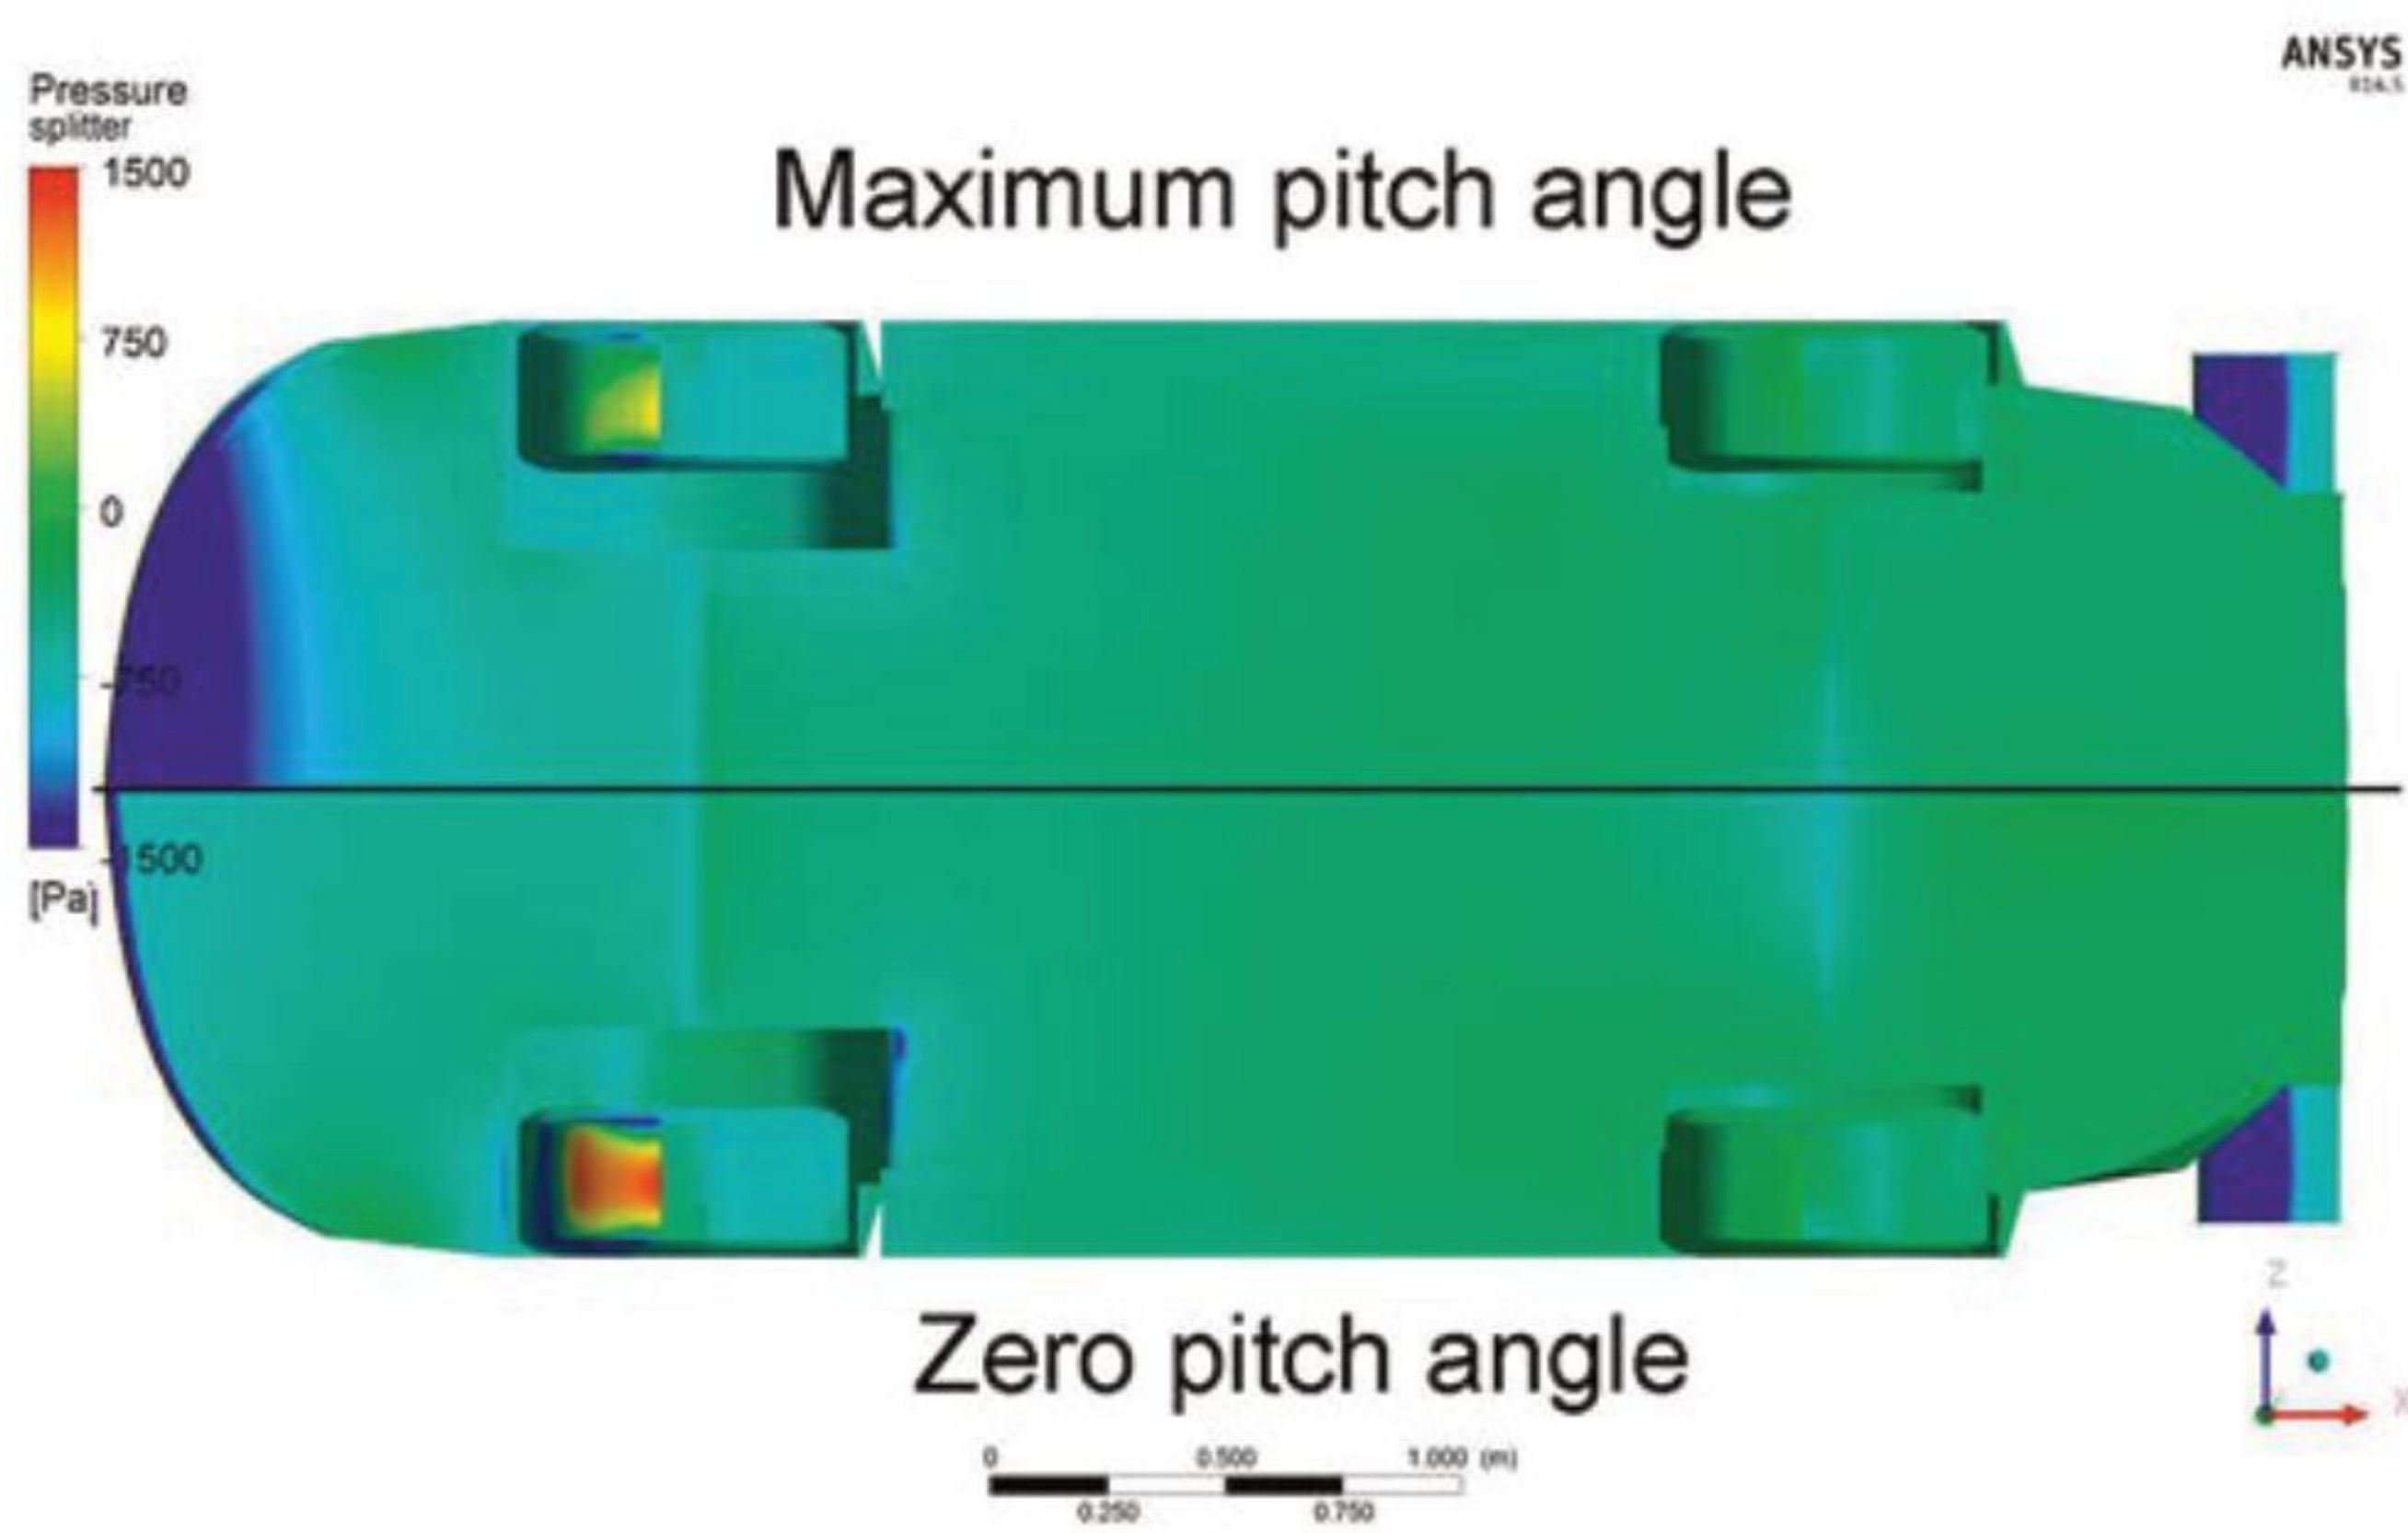

Figure 13: Pitch changes caused big shifts in pressure distributions on the underside
**Figure 13** shows the surface pressures on the model's underside. The big increase in suction under